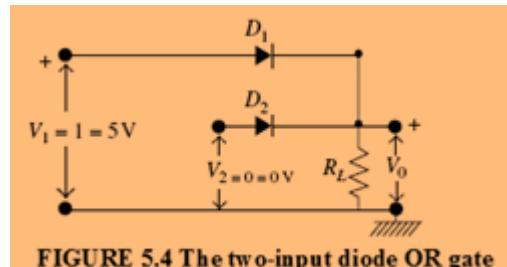

FIGURE 5.4 The two-input diode OR gate
**Diode OR Gates:** An OR gate is a digital circuit which gives a high output when either one or all the inputs are high (1). In other words, the output is low (0) only when both the inputs are low. A two-input diode OR gate is shown in Figure 5.4. Here too, we assume the diodes to be ideal. The following cases are possible: